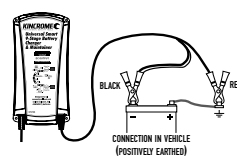

Fig 3
- FIRST Connect the BLACK (-) Crocodile clip or ring terminal lead to the (-) battery terminal and then connect the RED (+) Crocodile clip or ring terminal lead to the vehicle's chassis (Fig 3).